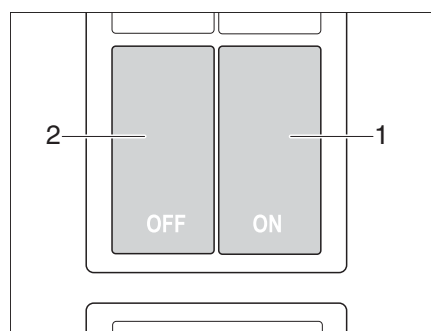

Fig. 108 Switch for the kitchen unit's central locking system
The kitchen unit is equipped with a central locking system. The flaps and drawers of the kitchen block can be locked and unlocked manually via the switch (Fig. 108). Also see chapter 4.10.
- Press the switch ON (Fig. 108,1). The flaps and drawers of the kitchen block are locked.
- Press the switch OFF (Fig. 108,2). The flaps and drawers of the kitchen block are unlocked.